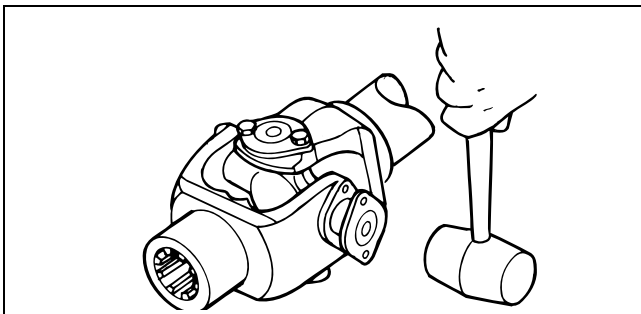

Figure 5.3
3. Hold the cross. Use a copper or brass hammer to lightly tap the bearing cup completely into the yoke bore. Figure 5.3.